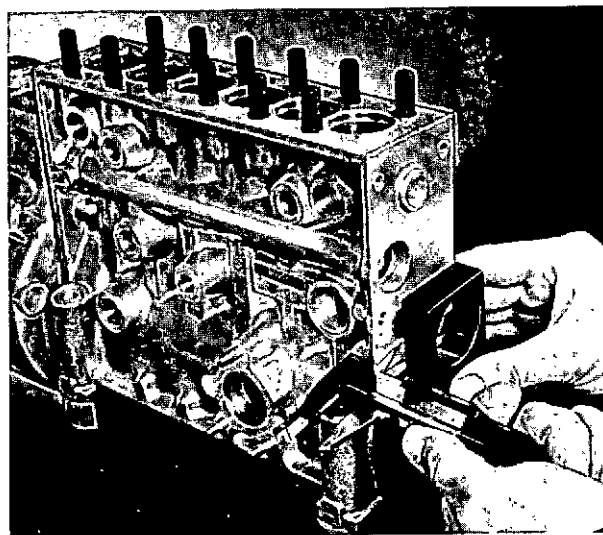

Fig. 20 Measuring camshaft position.
- (c) Insert the camshaft, complete with front and rear bearings but without centre bearing. Fit drive end bearing plate with same shims as found during dismantling, but omitting the 'O' ring, and tighten the retaining screws firmly. Press measuring bar 1 682 310 018 on to the camshaft taper and measure the clearance between bar and pump housing (fig. 20). Limits are 13 to 14 mm (0.512 to 0.551 inch). If below limits, fit an appropriately thicker adjusting plate at the governor end and press the